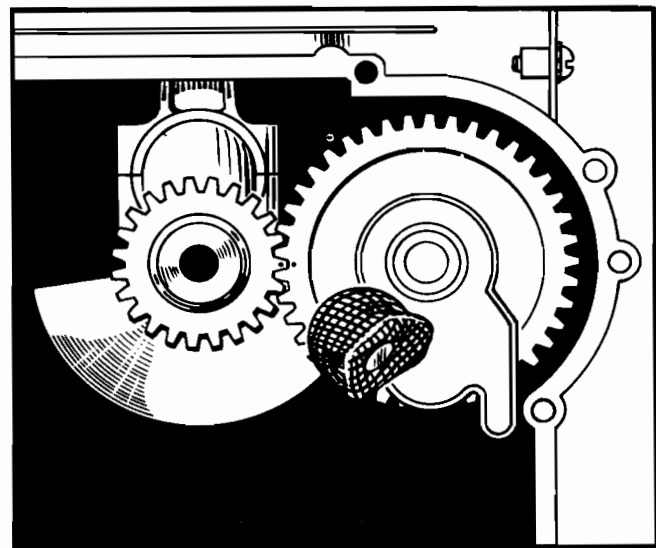

Figure No. 6
2. Mesh the two gears for proper timing. (See Figure No. 6.)